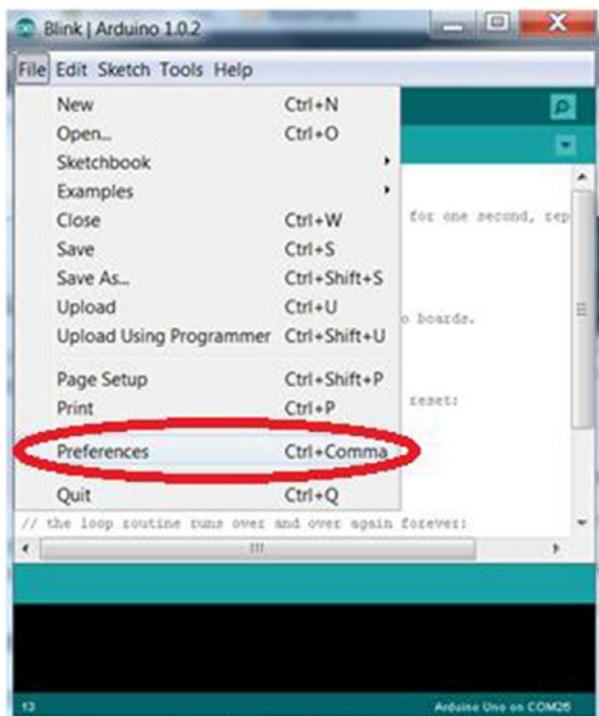

Figure 3-19. Finding the Sketchbook location
1. Find your Arduino sketchbook location by selecting File ► Preferences in the Arduino IDE (Figure 3-19).